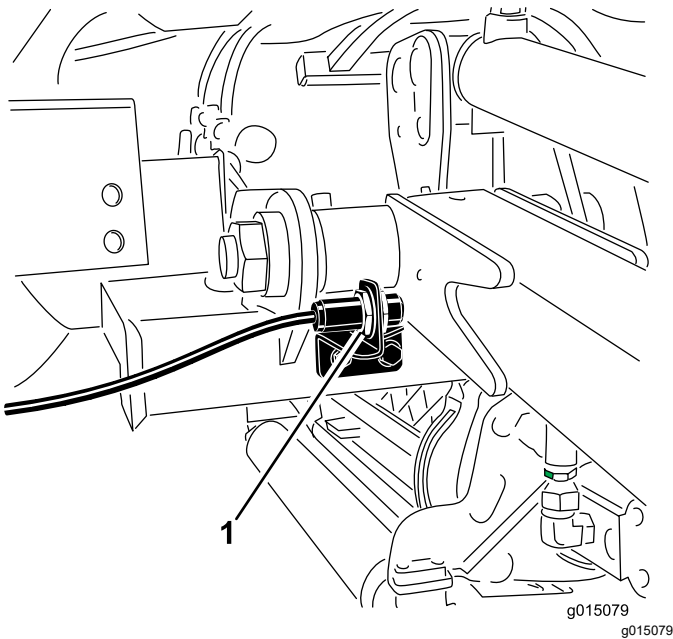

Figure 39
2. The lift arm switch is located behind the front right lift arm (Figure 39).
3. Loosen the switch mounting screws (Figure 39) and move the switch up to increase the lift arm turn around height or move the switch down to decrease the lift arm turn around height. Tighten the mounting screws.